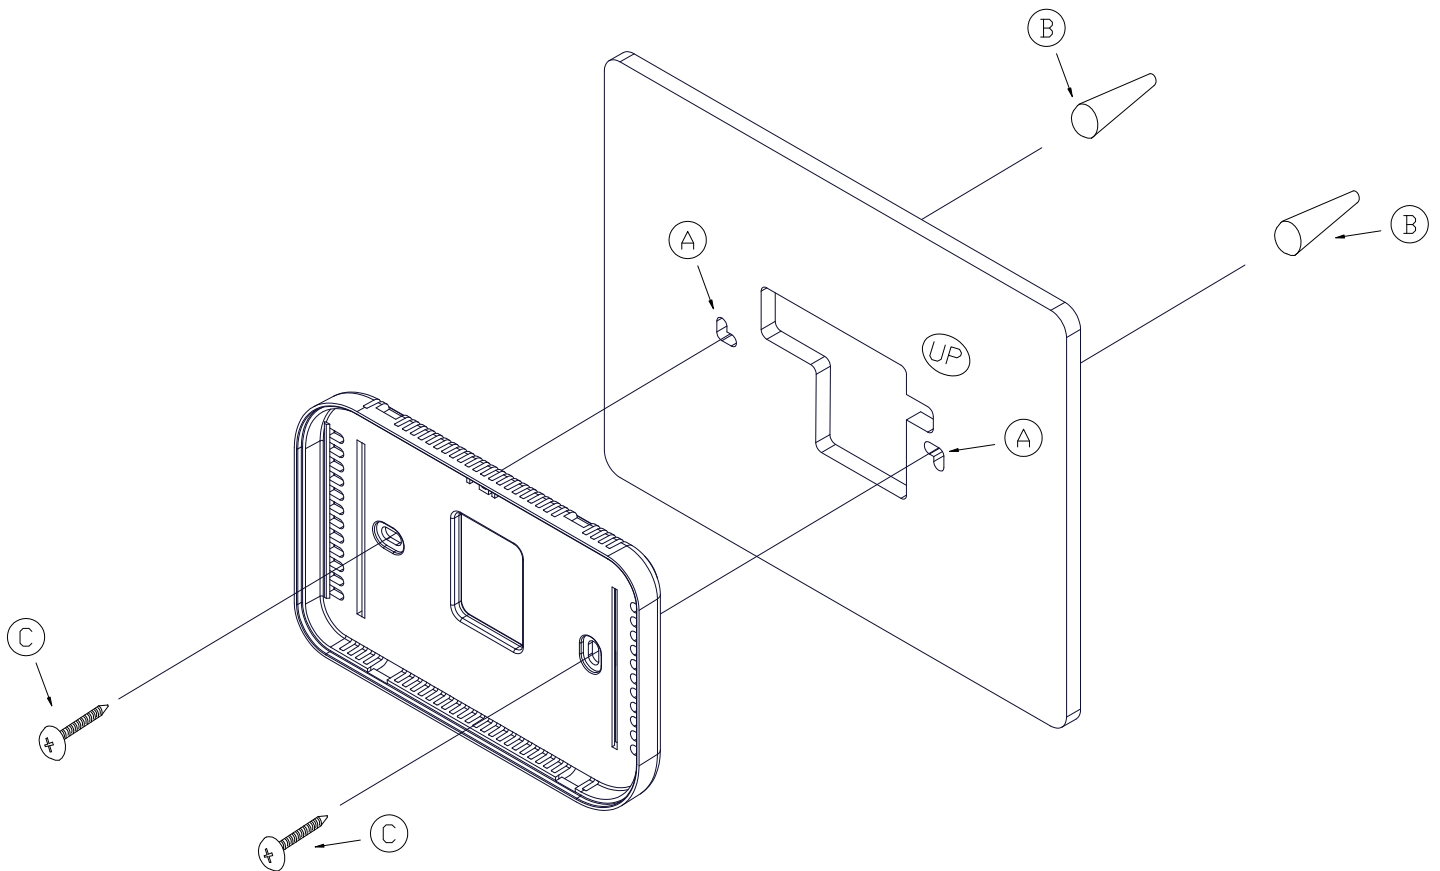

FIGURE 1
- 2) Using a pencil, mark the two mounting holes (marked “A” in Figure 1).
- 4) Install the supplied wall anchors (marked “B” in Figure 1).
- 6) Secure the thermostat base and the trim ring to the wall using the two supplied #6 x 1” self-tapping screws (marked “C” in Figure 1).